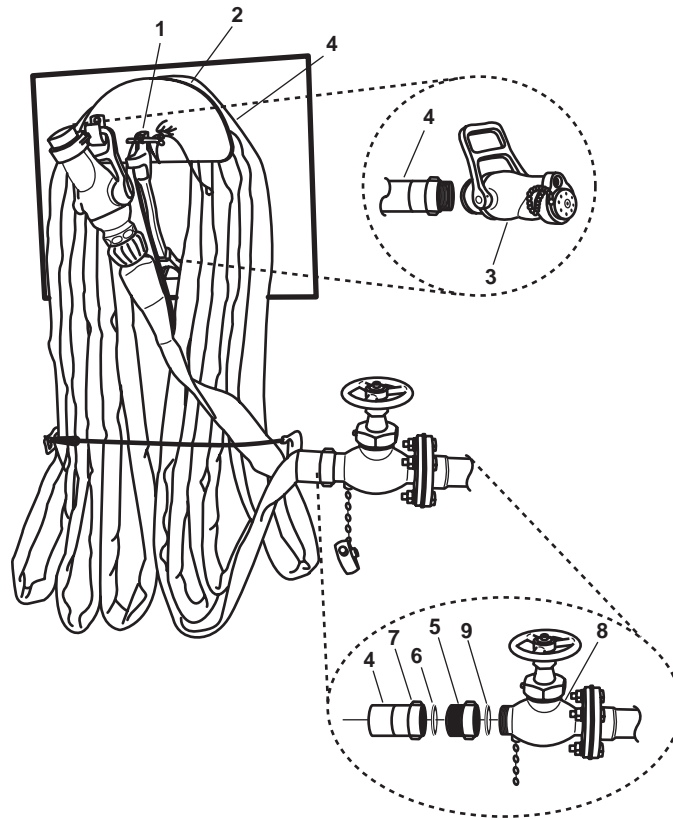

Figure 1. Typical Fire Station
1. Use the spanner wrench (figure 1, item 1) located on the storage rack (figure 1, item 2) to loosen the nozzle (figure 1, item 3) from the fire hose (figure 1, item 4).
2. Remove the nozzle (figure 1, item 3) from the fire hose (figure 1, item 4).
1. Install the nozzle (figure 1, item 3) on the fire hose (figure 1, item 4).
2. Use the spanner wrench (figure 1, item 1) to loosen the fire hose (figure 1, item 4) from the fire hose adapter (figure 1, item 5).
3. Remove the fire hose (figure 1, item 4) from the fire hose adapter (figure 1, item 5).
4. Remove the gasket (figure 1, item 6) from the female coupling (figure 1, item 7) of the fire hose (figure 1, item 4). Discard the gasket.
1. Install a new gasket (figure 1, item 6) in the female coupling (figure 1, item 7) of the fire hose (figure 1, item 4).
2. Attach the fire hose (figure 1, item 4) to the fire hose adapter (figure 1, item 5). Tighten the connection using the spanner wrench (figure 1, item 1).
1. Use the spanner wrench (figure 1, item 1) to remove the female coupling (figure 1, item 7) of the fire hose (figure 1, item 4) from the fire hose adapter (figure 1, item 5).
2. Remove the gasket (figure 1, item 6) from the female coupling (figure 1, item 7) of the fire hose (figure 1, item 4). Discard the gasket.
2. Using the spanner wrench (figure 1, item 1), tighten the female coupling (figure 1, item 7) to the fire hose adapter (figure 1, item 5).
2. Use the spanner wrench (figure 1, item 1) to loosen the fire hose adapter (figure 1, item 5) from the cutoff valve (figure 1, item 8).
3. Remove the gasket (figure 1, item 9) from the fire hose adapter (figure 1, item 5). Discard the gasket.
1. Install a new gasket (figure 1, item 9) in the new fire hose adapter (figure 1, item 5).
2. Use the spanner wrench (figure 1, item 1) to tighten the fire hose adapter (figure 1, item 5) onto the cutoff valve (figure 1, item 8).